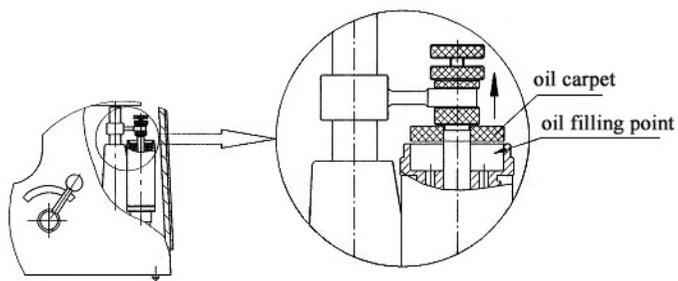

Figure 16
- 7 Fill adequate amount of machine oil into the contact face between elevating screw rod and hand wheel periodically. If the pointer of indication dial gauge rotates rapidly at the beginning and then slowly later on when applying main test force, it means that the buffer is lack of machine oil. Lift up the oil carpet over the buffer and fill with clean machine oil. At the same time, pull and push the loading and unloading handles several times to let the piston move up and down so that the air inside the buffer is completely get rid of, until there is oil overflowing from the top when the piston falls down to the bottom (see Fig 16).